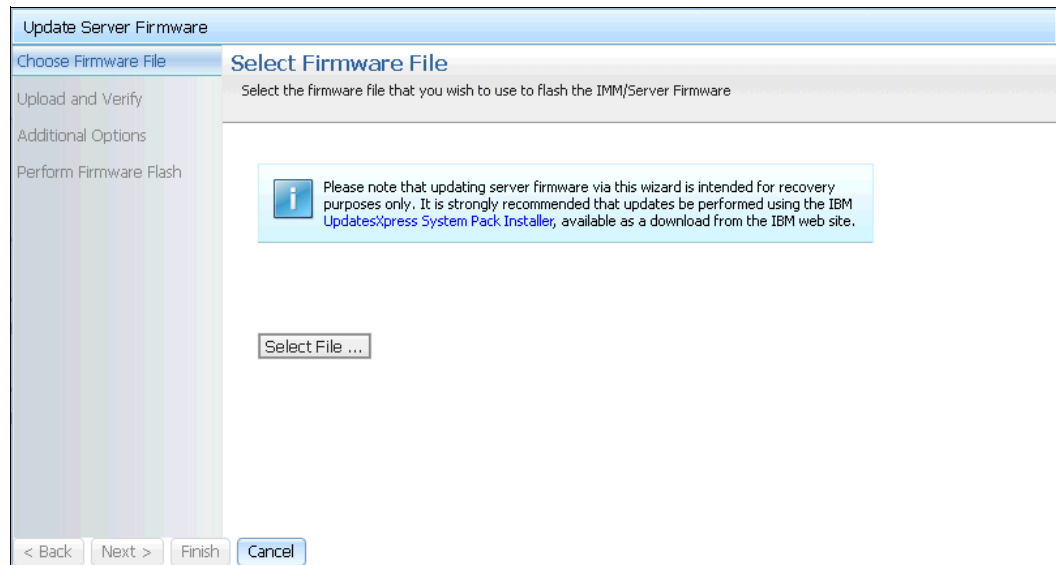

Figure 5-100 IMM2 firmware selection page
2. Click **Update Firmware**. A wizard starts, which guides you through the update process, as shown in Figure 5-100.